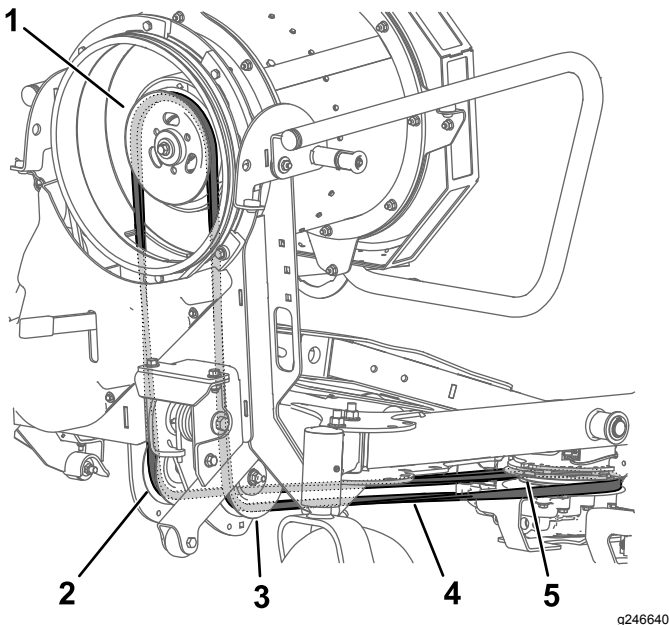

Figure 37
6. Remove the belt from the fan pulley (Figure 37).
7. Route the belt down through the drive adapter assembly, around the idler pulleys, and around the clutch pulley (Figure 37). Ensure that the belt is seated properly in the pulley grooves.